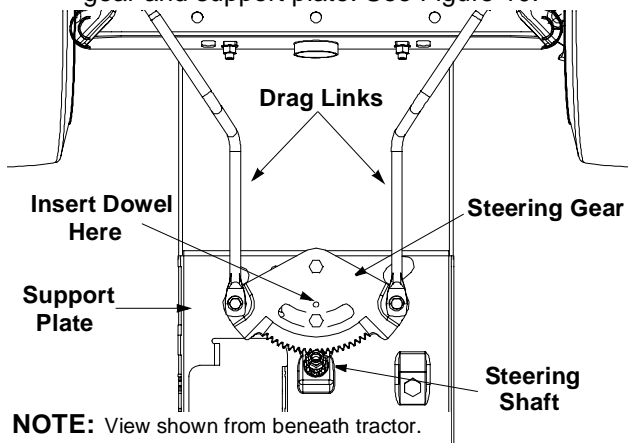

Figure 10
- Place the steering wheel in position for straight ahead travel. Insert a 1/4" dowel up through aligning holes in both the steering gear and support plate. See Figure 10.